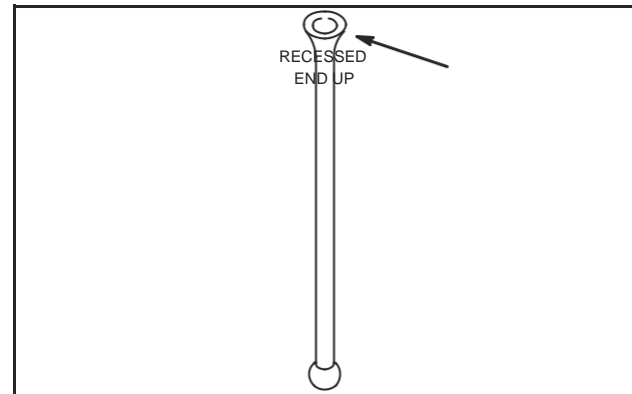

Fig. 34 – Install Push Rods
3. Lubricate push rods with engine oil then install with recessed end up, Fig. 34.